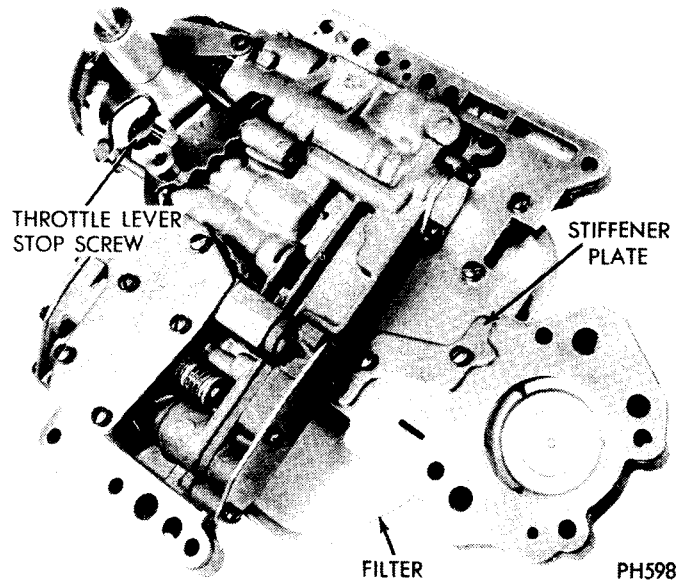

Fig. 38—Valve Body Controls
(1) Turn valve body over (Fig. 38) and remove shuttle valve cover plate.